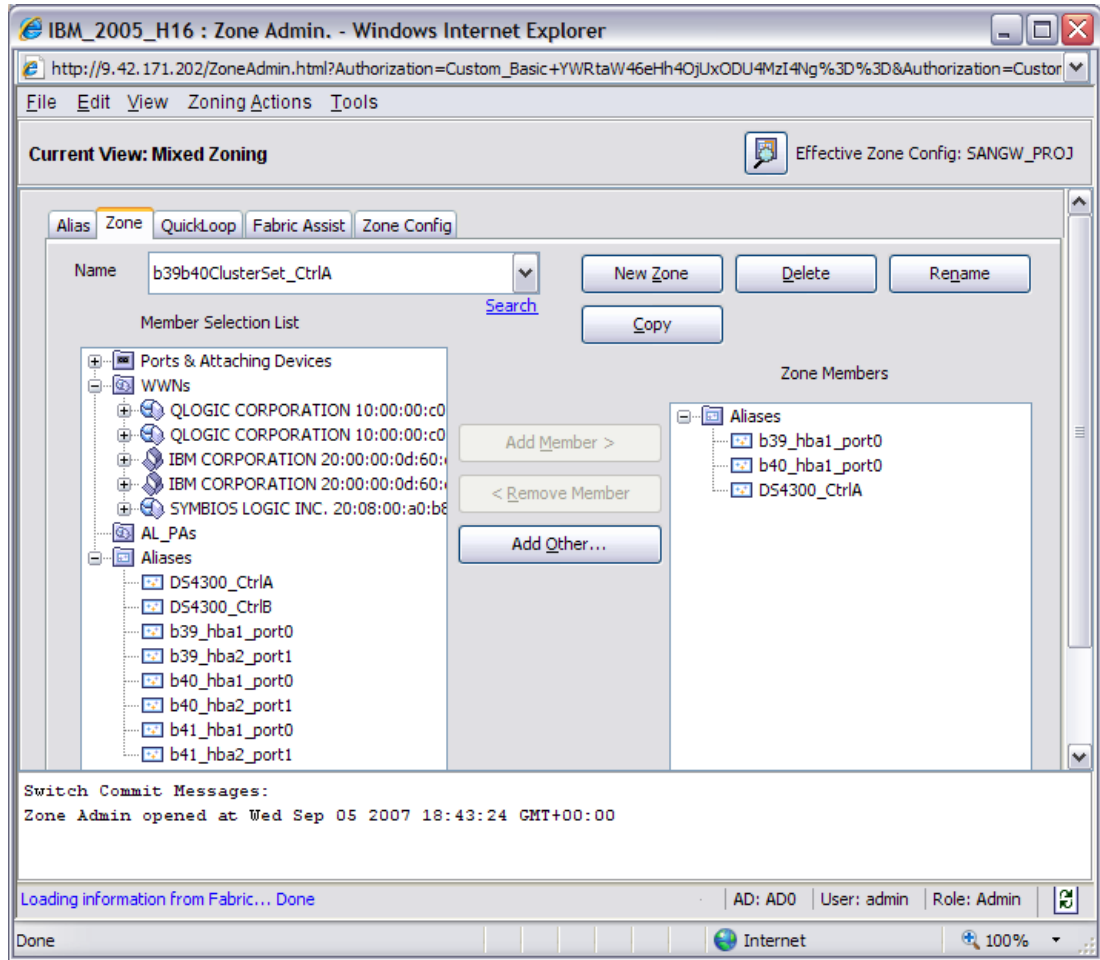

Figure 3-47 Define a Zone
2. Once you have created the alias name based on the WWN, you may proceed to define the zoning of each alias that you had created earlier. This is shown in Figure 3-47 on page 62.